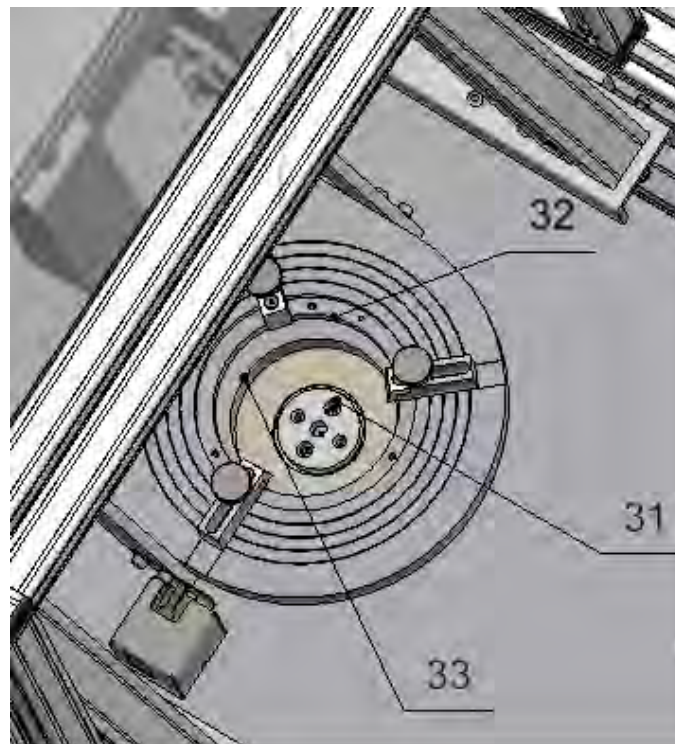

Fig.13
25. Place comparator in relation to robot in a way ensuring that spacer ring for comparator (31) is concentrically positioned to openings (32) of weight holder and to openings of robot board (33). (Fig. 13)